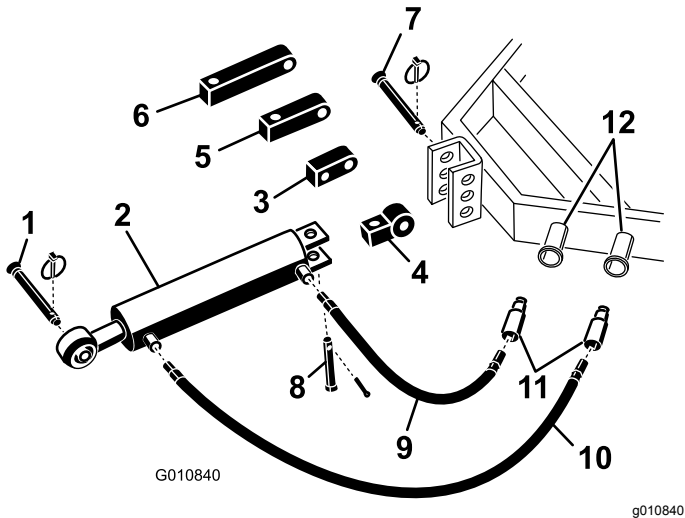

Figure 5
- Secure the connecting link end of the hydraulic top link to the tractor with the pins supplied with the tractor (Figure 5). Position the hydraulic top link so the rod end is toward the aerator. The cylinder ports should be positioned toward the tractor's auxiliary power hydraulics.
**Note:** If the hydraulic cylinder must be positioned with the ports facing upward, use the rotational block instead of the standard mounting block to reposition the cylinder (Figure 5). A 90 degree hydraulic fitting may be used instead of the rotational block (fittings are not supplied).
(Figure 5). Remove the connecting link from the cylinder.
- B. Install the rotational block to the cylinder with the pins previously removed (Figure 5).
2. Connect the 106 cm (3-1/2 foot) long hydraulic hose to the hydraulic top link port which is closest to the aerator Figure 5. Apply pipe-thread sealing tape or compound to the hose threads to prevent any leaks.
3. Connect the 76 cm (2-1/2 foot) long hydraulic hose to the hydraulic top link port which is closest to the tractor (Figure 5). Apply pipe-thread sealing tape or compound to the hose threads to prevent any leaks.
If the hydraulic cylinder does not reach the aerator mounting bracket, use an extension block instead of the standard mounting block to connect the cylinder to the tractor (Figure 5).
- A. Remove the cotter pin and pin securing the standard connecting link to the cylinder (Figure 5). Remove the connecting link from the cylinder.
- B. Install the required length extension block to the cylinder with the pins previously removed (Figure 5).